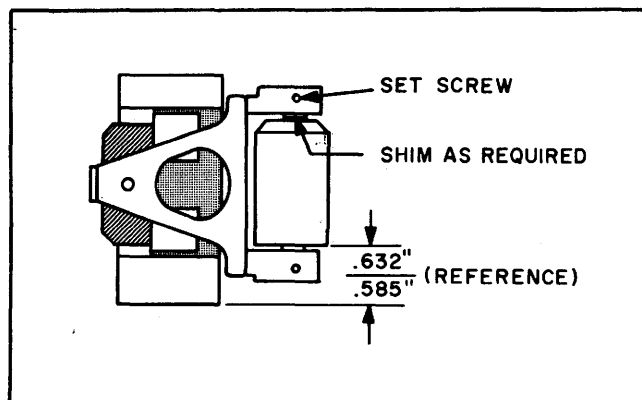

Figure 6-13. Pinch Roller Alignment
g. Assemble roller assembly (14) and shaft (12) into frame assembly (17). Play of .004 to .014" between roller assembly and frame opening to be obtained by shimming at top of roller assembly only. (See figure 6-13.) Tighten set screws.